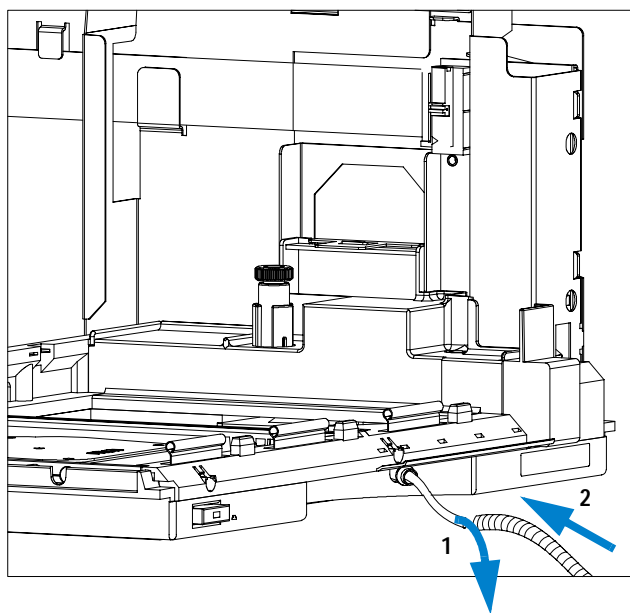

Figure 2 Installing the Corrugated Waste Tubing in the Plastic Port
- 5 Install the corrugated waste tube in the plastic port at the front bottom center of the instrument. Slide the waste tubing coming from the internal tray (if present) through the plastic port and the corrugated waste tube (see Figure 2 on page 20). Route the corrugated waste tubing into a waste container.
through the plastic port and the corrugated waste tube (see Figure 2 on page 20). Route the corrugated waste tubing into a waste container.